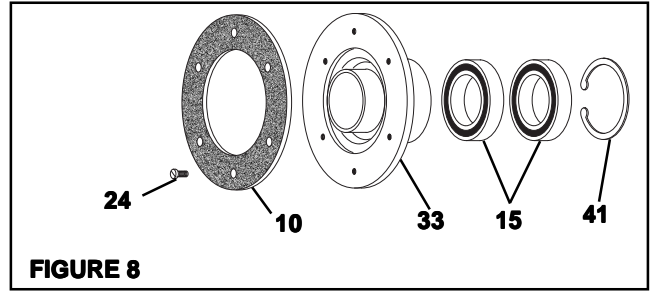

FIGURE 8
1. Remove the Retaining Ring (Item 41) (See Figure 8).
2. Press the old Bearings (Item 15) out of the Drive Disc (Item 33) (See Figure 8).
3. Clean the bearing bore of the Drive Disc (Item 33) with fresh safety solvent, making sure all old Loctite® residue is removed (See Figure 8).
4. Apply an adequate amount of Loctite® 680 to evenly coat the outer race of the new Bearings (Item 15) (See Figure 8).
5. Carefully align the O.D. of the Bearings (Item 15) with the bore of the Drive Disc (Item 33) and press the new Bearings into place (See Figure 8).
6. Reinstall the Retaining Ring (Item 41) (See Figure 8).
7. Remove the old Machine Screws (Item 24) securing the Friction Facing (Item 10) to the Drive Disc (Item 33) (See Figure 8).
8. Remove the old Friction Facing (Item 10) (See Figure 8).
9. Install the new Friction Facing (Item 10) and tighten the new Machine Screws (Item 24) to 43 In. Lbs. [4.85 N•m] torque (See Figure 8).